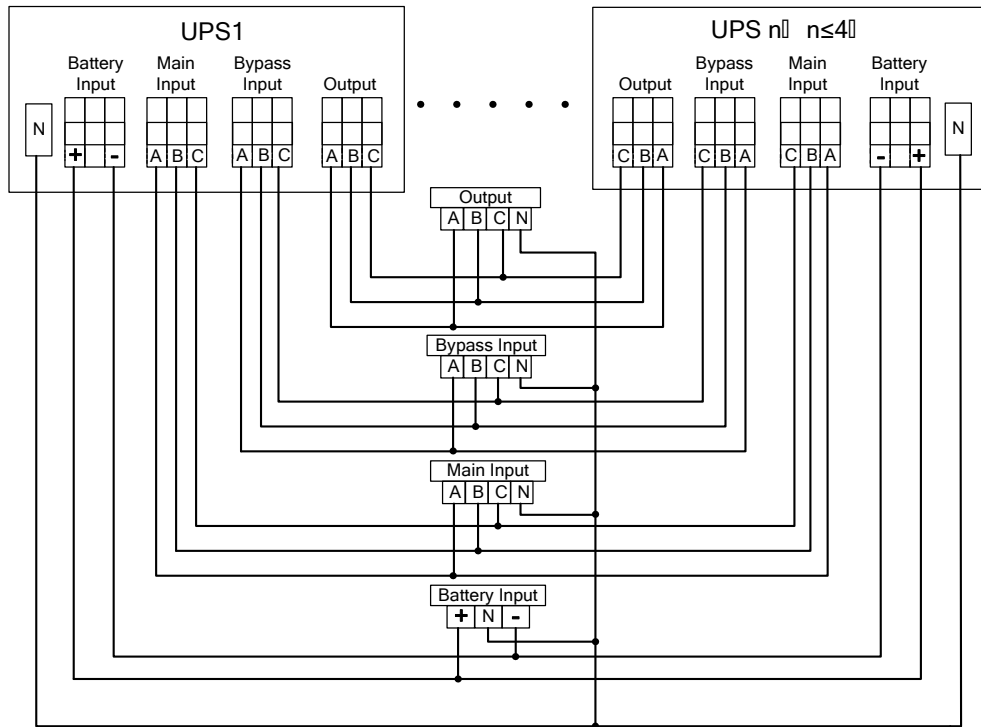

FIG.2 Schematic diagram of power wiring of parallel system
**Step 3:** As shown in Figure 2, connect the main input, bypass input and output of the UPS to be combined in parallel, and then access to the mains, bypass and load respectively. If the parallel system adopts a shared battery string, the wiring is shown in Figure 2; If the single unit of the parallel system adopts independent battery string, the battery string of each single unit cannot be connected in parallel and are used independently for each unit.